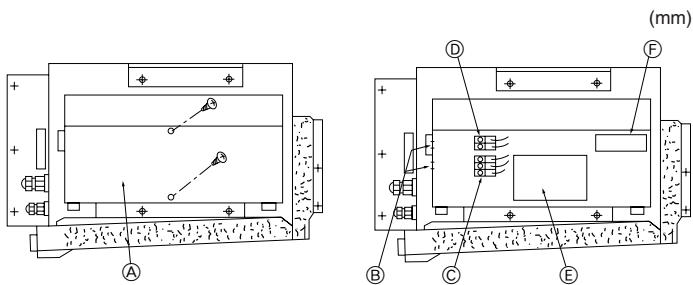

Fig. 6-1
1. Remove the two electrical parts cover (2 screws). (Fig. 6-1)